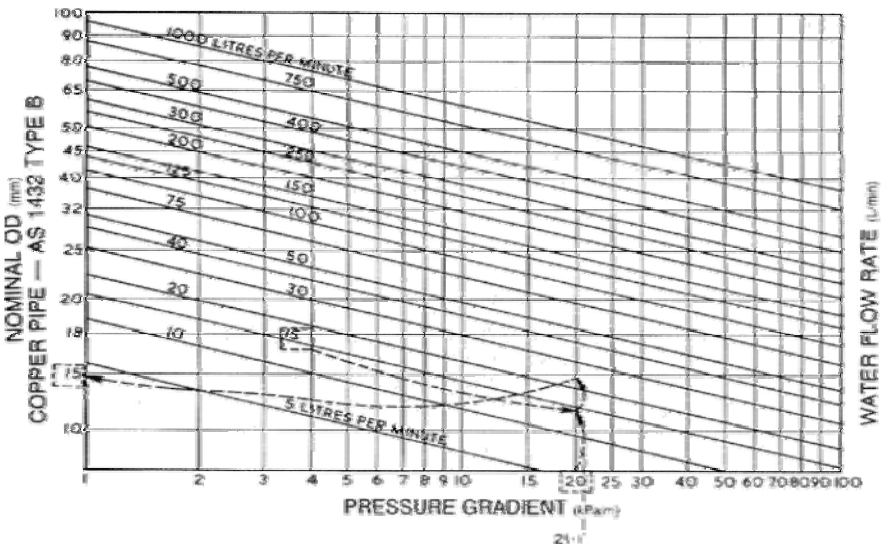

Fig 16.1: Pipe sizing as a function of pressure gradient and total flow.
- 6. Use the chart in Figure 16.1 to assess the recommended pipe diameter.
Figure 16.1 can be used to determine pipe diameters once water flow and pressure gradient are known.
Step 6: Calculate the pressure drop in each line resulting from rises: This is read directly from figure 16.1. The results are summarised in table 16.4 below.